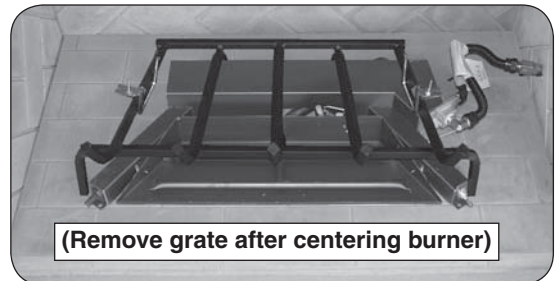

Fig. 19-4 Position grate
2. Position the grate over the burner pan, ensuring the assembly is centered from left to right (see Fig. 19-4).